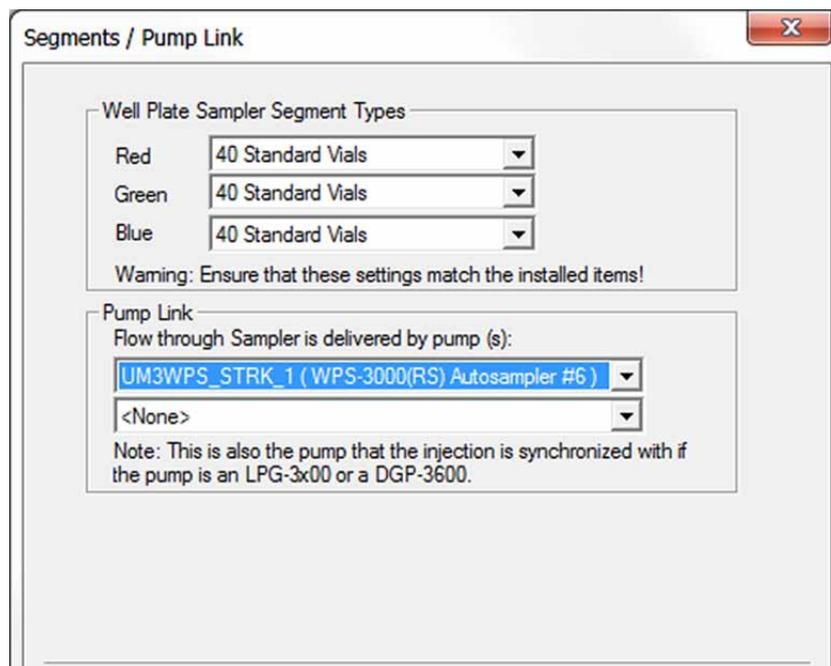

Fig. 35: Segments/Pump Link settings
3. Click the **Segments / Pump Link** page. Select the pump on the **Flow through sampler is delivered by pump(s)** list (→ Fig. 35).